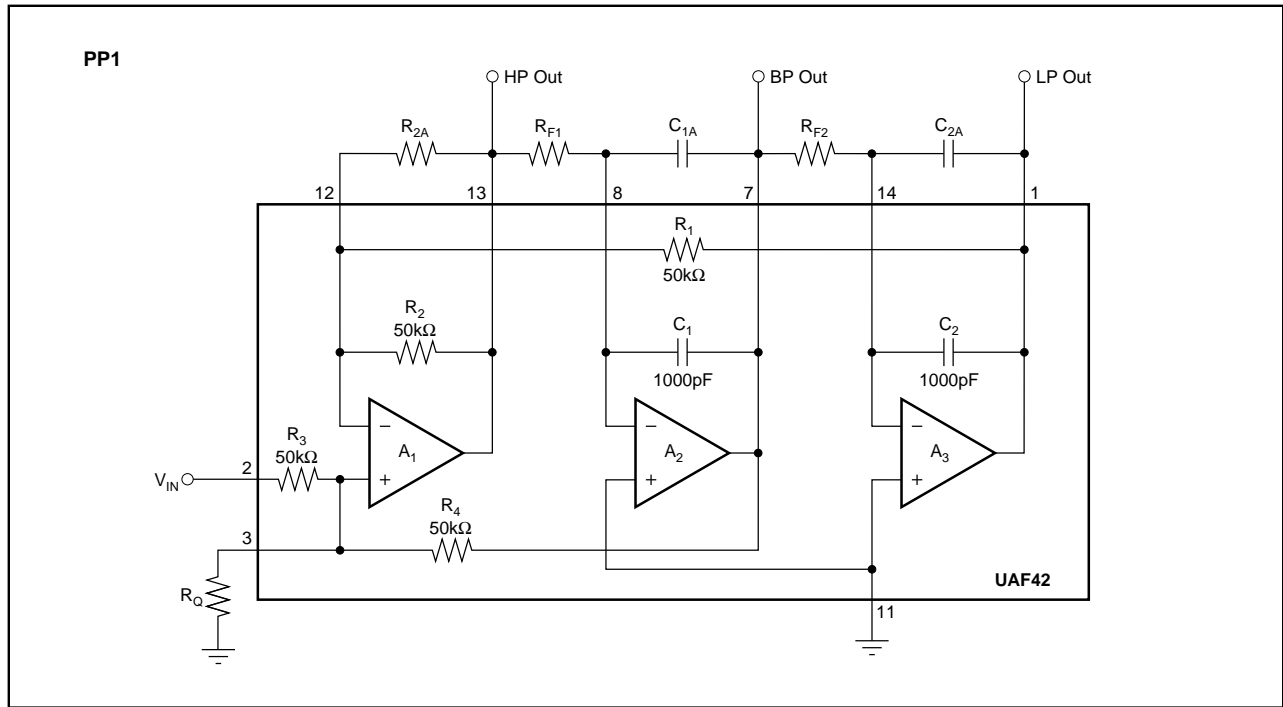

FIGURE 7. PP1 Noninverting Pole-Pair Subcircuit Using Internal Gain-Set Resistor  $R_3$ .
**PP1** (Noninverting pole-pair subcircuit using internal gain-set resistor,  $R_3$ )—See Figure 7. In the automatic topology selection mode, this configuration is used for all band-pass filter responses. This configuration allows the combination of unity pass-band gain and high Q (up to 400). Since no external gain-set resistor is required, external parts count is minimized.